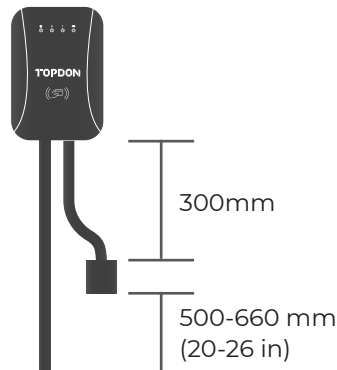

Fig. 5.4.2
2. For plug-in installation, the NEMA outlet should be located 500-660 mm (20-26 in) from the ground adjacent to the stud where the charging station will be mounted. (See Fig. 5.4.2)